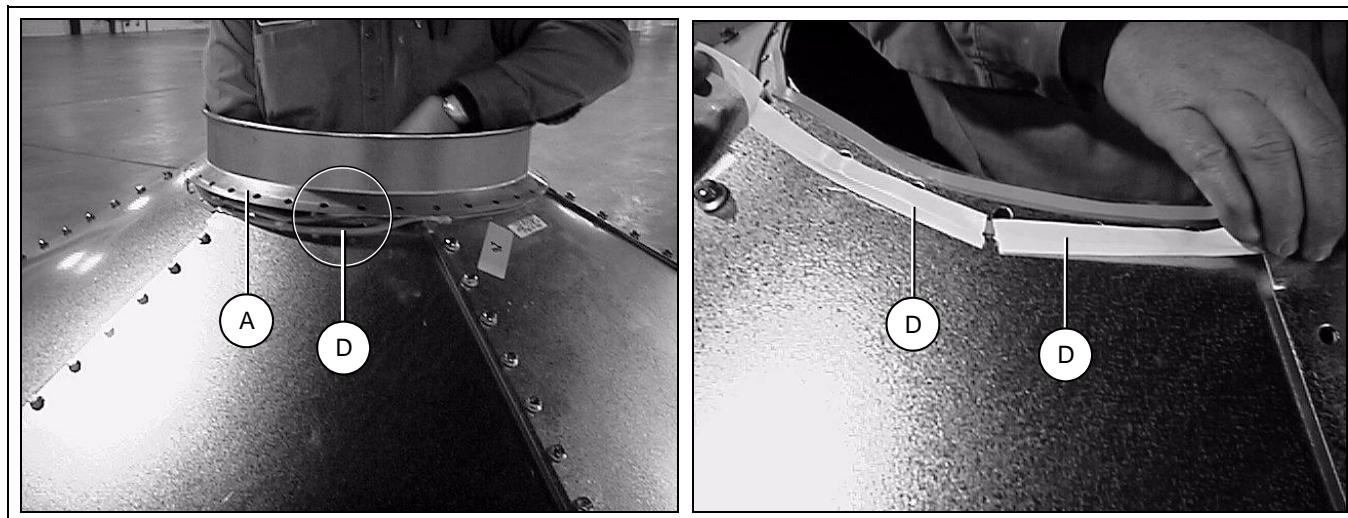

Figure 7D
Apply two (2) strips of caulking between peak ring and roof panels, See Figure 7D. Note that the peak ring goes on the outside of the roof panels.